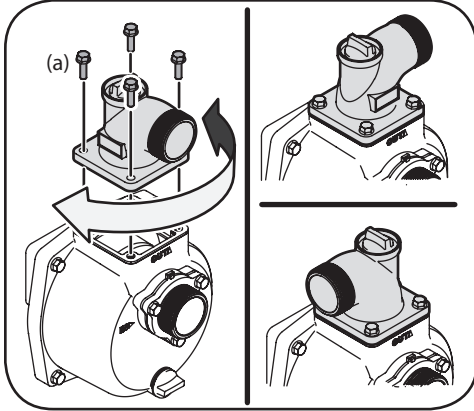

Figure 4-4
1. Rotate the pump head to the desired position by removing the four screws (a). Once in the desired position, then snug down the four screws (a). Do not overtighten. See Figure 4-4.